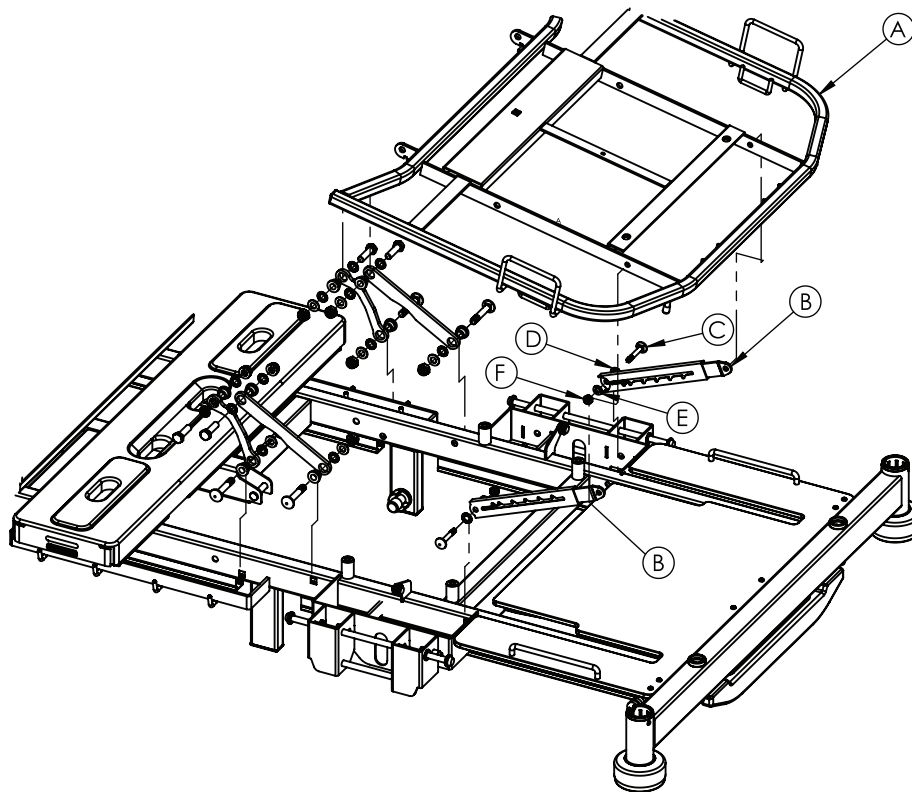

Figure 11: Lower leg section locking mechanism
4. Raise the lower leg section (A) (Figure 11 on page 58).
6. Using a 13 mm combination wrench and a 13 mm socket, remove and save the upper bolt and nut that secure the lower leg section locking mechanism (B) to the foot section weldment (Figure 11 on page 58).
7. Using a 13 mm socket, remove and save the bolt (C), washers (D, E), and nut (F) that secures the bottom of the lower leg section locking mechanism to the litter frame (Figure 11 on page 58).
8. Remove and discard the lower leg section locking mechanism (B) (Figure 11 on page 58).